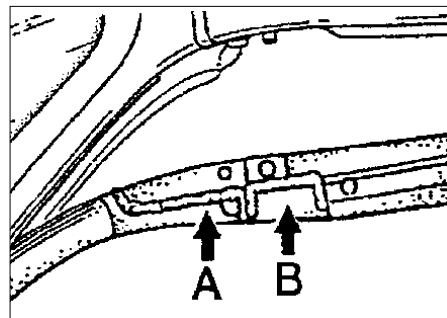

Figure 3
- Lay butyl material on top of the formed piece on the door seal (arrows A and B, figure 3).